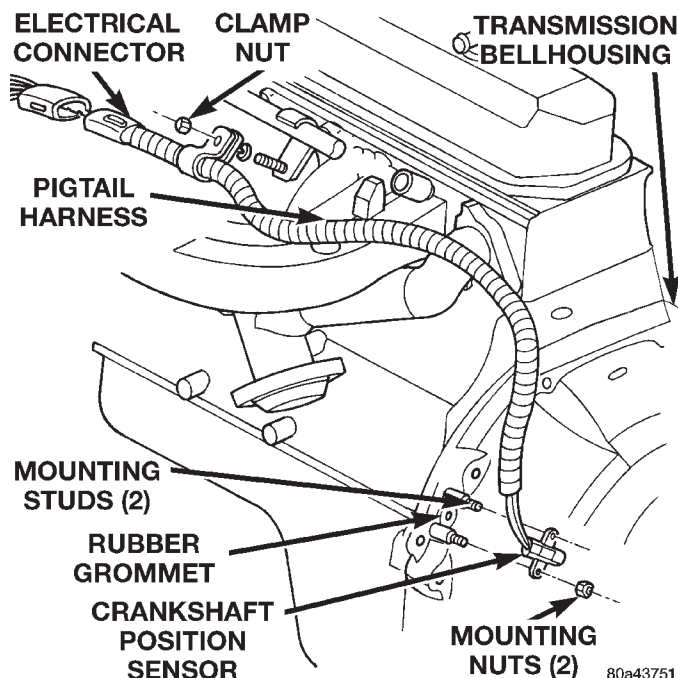
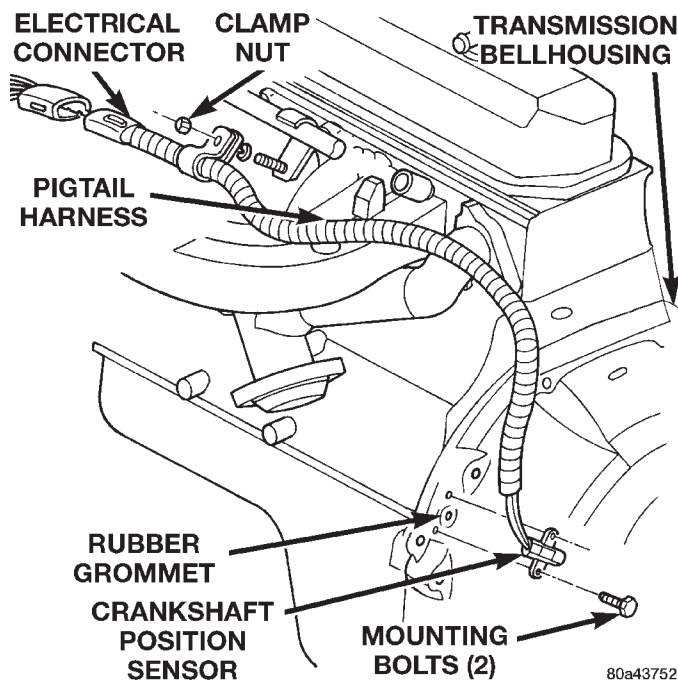

Fig. 7 Crankshaft Position Sensor—2.5L Engine
Fig. 8 Crankshaft Position Sensor —4.0L Engine
- (7) Mark front propeller shaft, axle, and transfer case yokes for installation alignment, if equipped.
- (8) Remove propeller shaft(s).
- (9) Unclip wire harnesses from transmission and transfer case, if equipped.
- (10) Disconnect transfer case vent hose, if equipped.
- (11) Disengage any wire connectors attached to transmission or transfer case, if equipped, components.
- (12) Support transfer case, if equipped, with transmission jack.
- (13) Secure transfer case, if equipped, to jack with safety chains.
- (14) Disconnect transfer case shift linkage at transfer case, if equipped.
- (15) Remove nuts attaching transfer case to transmission, if equipped.
- (16) Remove transfer case, if equipped.
- (17) Remove crankshaft position sensor (Fig. 7), (Fig. 8).